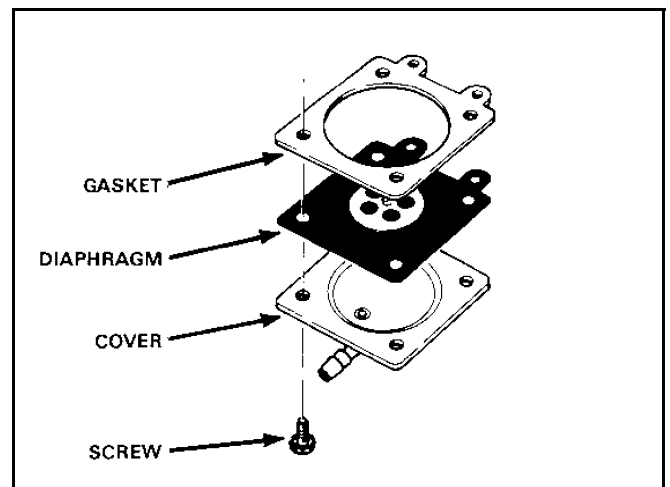

Figure 205
2. Remove the four metering diaphragm cover screws, metering diaphragm assembly, and metering diaphragm gasket (Figure 205).